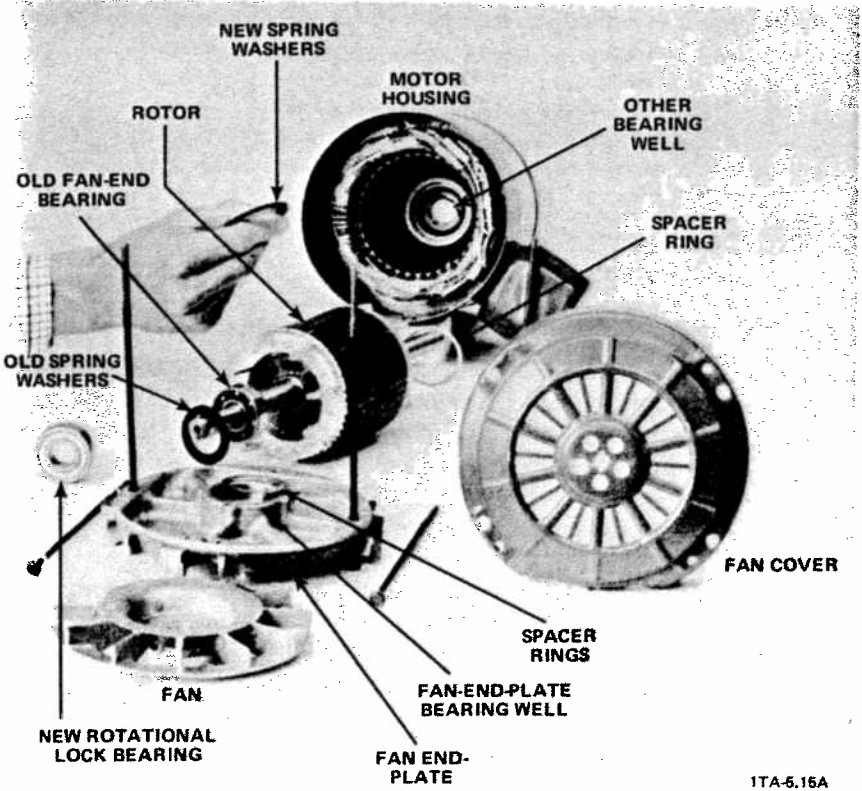

Figure 5-17. Disassembled Motor (D30A Motor Shown)
Proceed as follows to install a rotational lock bearing (see Figure 5-17). Note that the rotational lock bearing is installed on the fan end of the motor for all pump models except for D60A/D90A pump models with Marathon motors. The lock bearing on D60A/D90A's with Marathon motors is installed on the shaft end.
- (g) Grease the two new spring washers (see Table 5-2) and place them together so that the IDs are tight against each other and so that there is a gap between the ODs. (Figure 5-17 shows ungreased spring washers placed together as described above.)